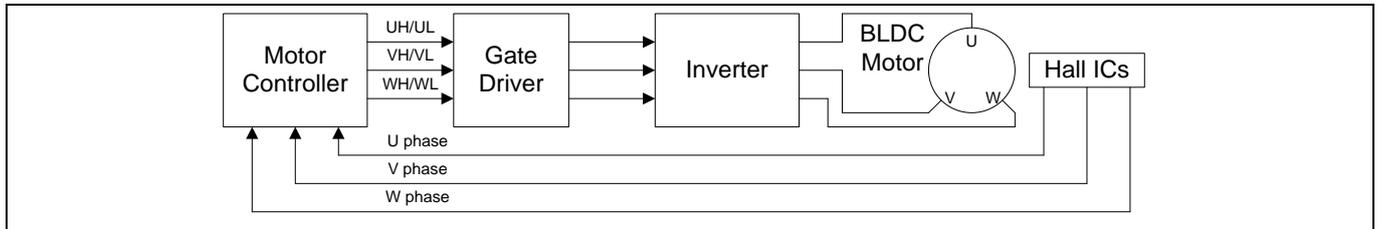
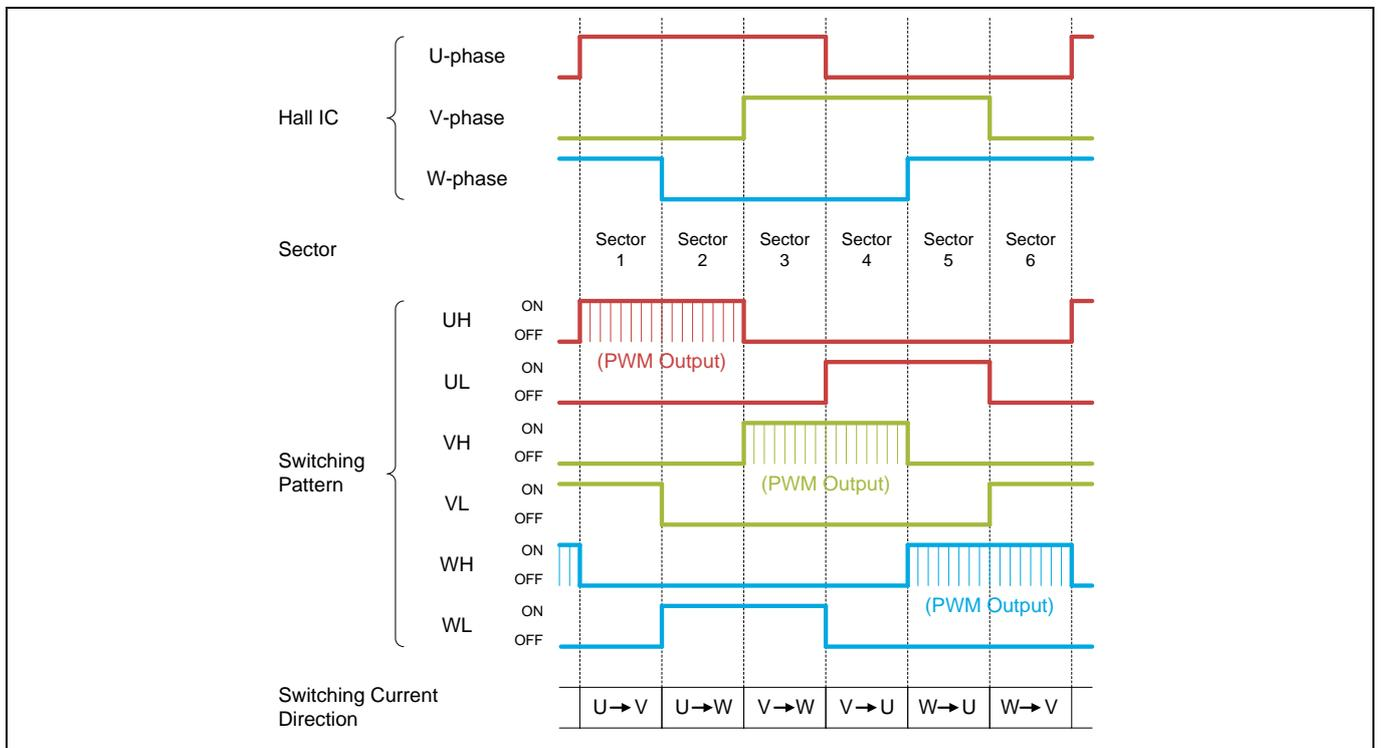
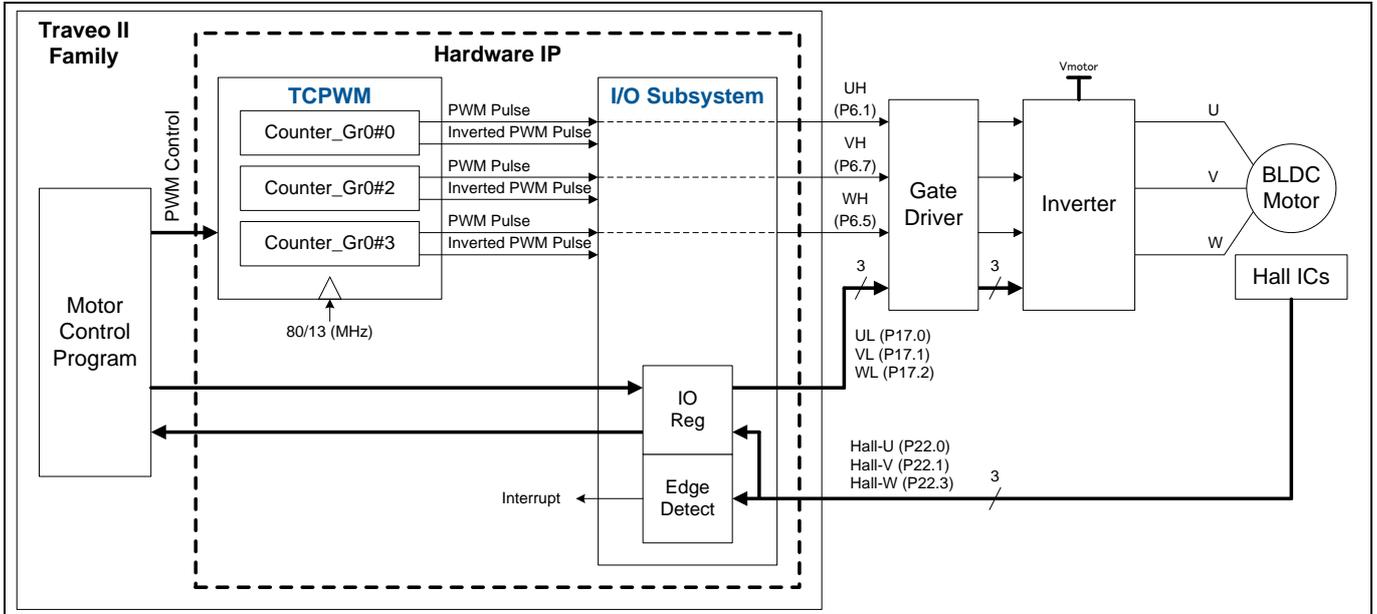

Figure 1 Block Diagram with 120-degree Commutation Control
Figure 2 Timing Chart with 120-degree Commutation Control (for CW)
Figure 3 Example for Configuring 120-degree Commutation Control Using Hall ICs with Traveo II Family
Figure 1 shows the block diagram with 120-degree commutation control and Figure 2 shows the timing chart for clockwise (CW) rotation with 120-degree commutation control. Generally, in 120-degree commutation control using a Hall IC, a motor rotates by controlling the direction and strength of the current flowing in the motor based on the rotational position of the motor from the Hall IC.
In Figure 2, the output of Hall IC shows the motor rotational position. Three Hall IC (U-phase, V-phase, and W-phase) are implemented on the motor at every 120-degree. Therefore, the six patterns that are output at every 60-degree depend on the rotation position. The sectors (1 to 6) are determined according to the output pattern from the Hall IC, and the direction of the current is determined according to the sector.
In general, these signals control the current to the motor via the inverter circuit. Current direction flows from Hi-side to Low-side. In sector 1 in Figure 2, UH and VL are ON. Therefore, the current flows from U-phase to V-phase (switching the current direction in Figure 2 shows the current flow in each sector.)
Figure 3 shows an example for configuring 120-degree commutation control using Hall ICs with Traveo II family. This application note explains the use case shown in **Figure 2**.